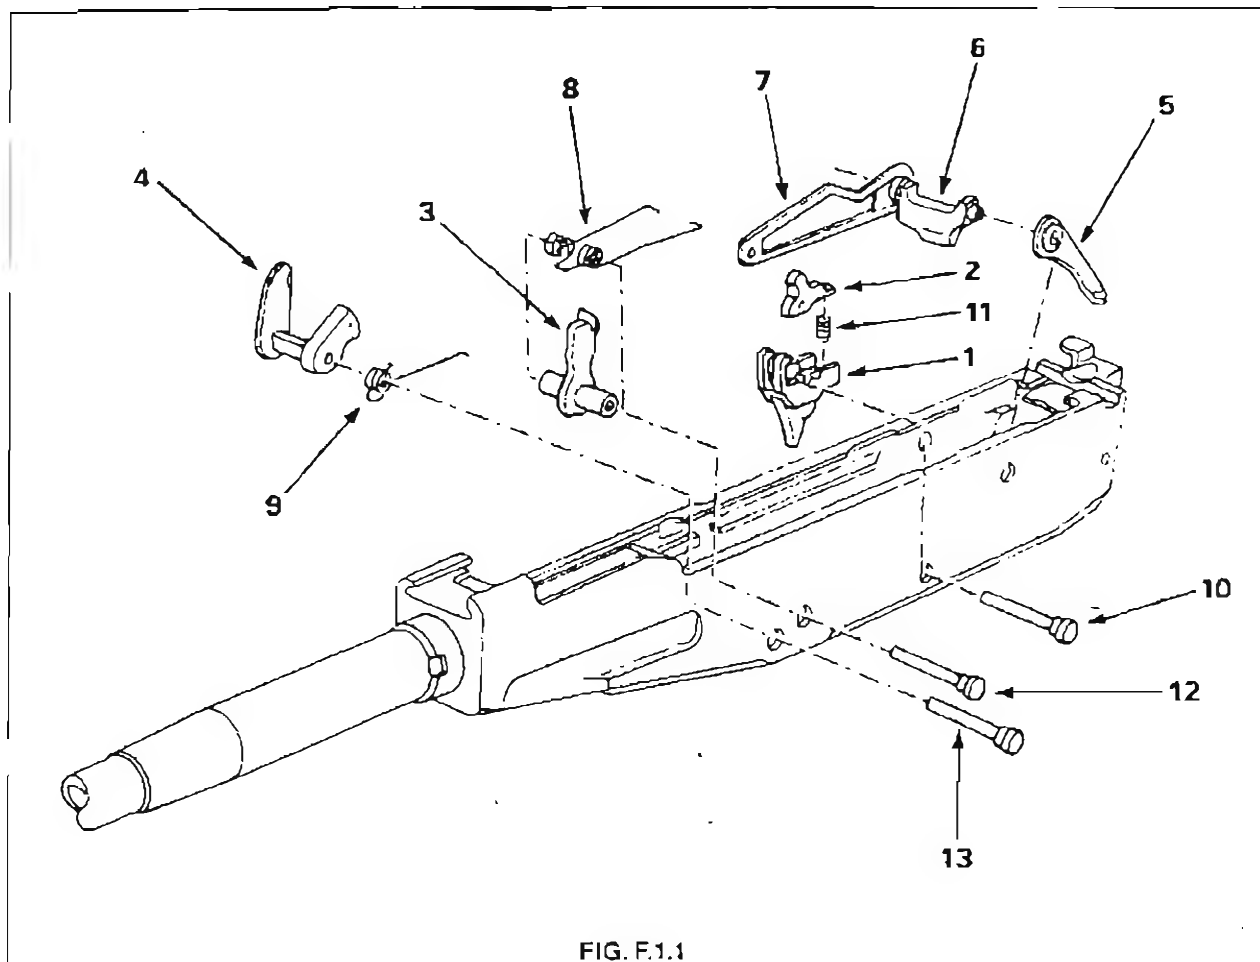

FIG. F.1.1
4. The trigger mechanism assembly consists of the following components as illustrated in Fig. F.1.1 and F.1.2.